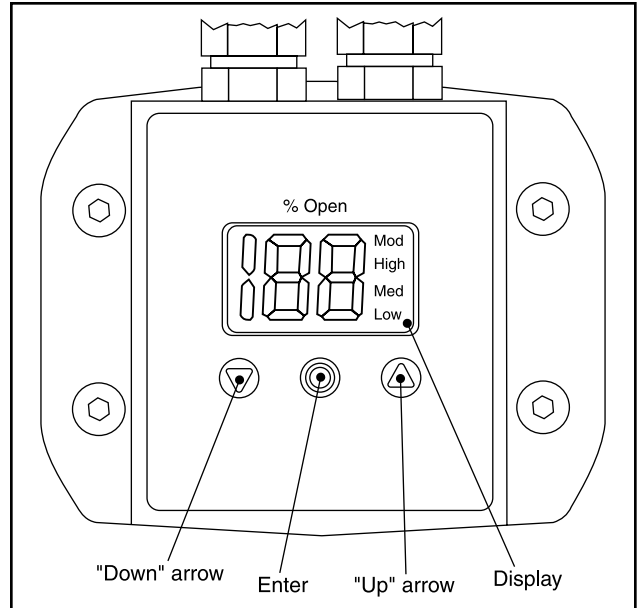

Figure 9 - ICAD with Display
The setting of parameters is managed by means of the integrated ICAD MMI (Figures 9 and 10) and consists of:
- "Down" arrow push button (Figure 9)
- Enter push button (Figure 9)
- To exit from the Parameter list and return to the display of Opening Degree (OD), keep the push button activated for 2 seconds.
- Display (Figure 9)
- Displays the function status by means of text (Figure 9).
If an alarm has been detected the ICAD display (Figure 9) will alternate between showing Actual alarm and present Opening Degree.
5. When the display on ICAD (Figure 9) is alternating between showing: **CA** and **A1** the factory resetting is complete.